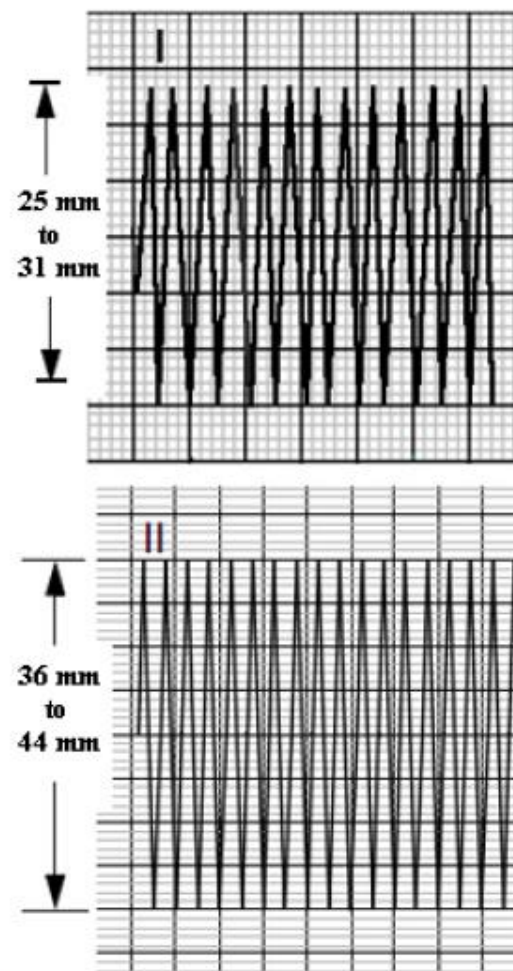

Figure 1.34—Signal amplitude for 12-lead gain test
4. Print five seconds of ECG Lead I and confirm the printed signal amplitude is 25 mm to 31 mm, peak-to-peak, as shown in Figure 1.34.
6. Print five seconds of ECG Lead II and confirm the printed signal amplitude is 36 mm to 44 mm, peak-to-peak, as shown in Figure 1.34.